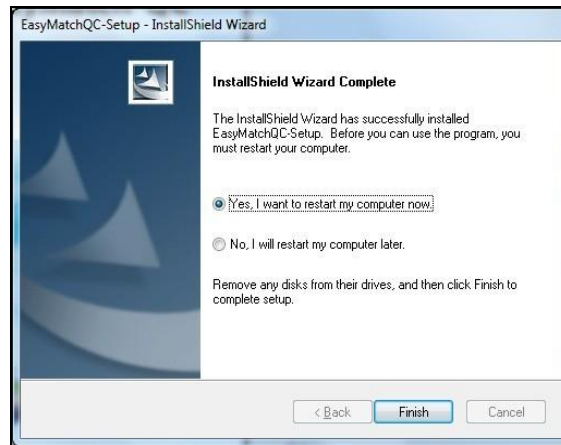

Figure 11. Completed Install
- a. If the user has a HunterLab USB hardware key, then it can be used with a new sensor on the same computer. Return to Install the Software, Step 5 (Figure 11) and select Sentinel Key to continue.